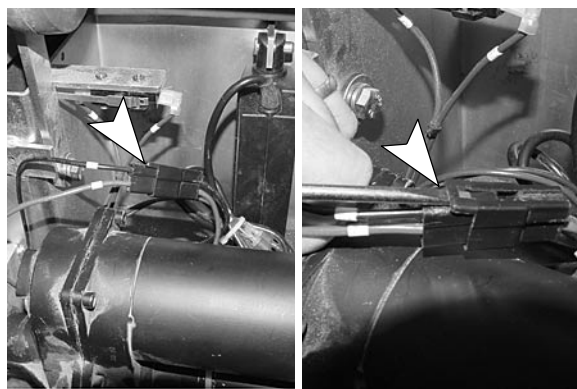

Fig. 3
4. Carefully cut the wire-tie that secures the motor's wire harness, then unplug the wire harness connector. Use a small flat head screwdriver to disengage the connector plug (Figure 3).